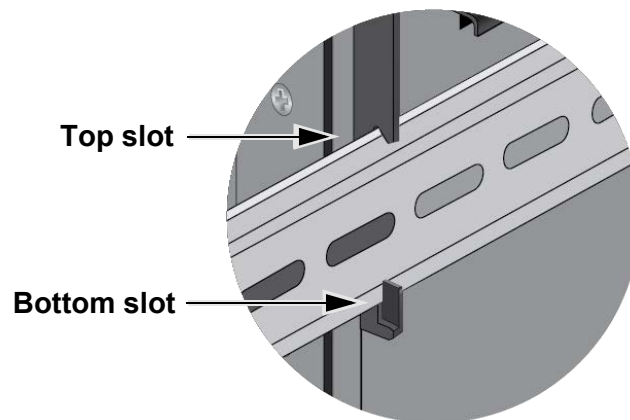

Figure 30. Verifying the DIN Rail Installation
- Visually inspect the bracket to verify that the DIN rail is now fitted into the top and bottom slots of the bracket, on both the left and right sides. Refer to Figure 30.